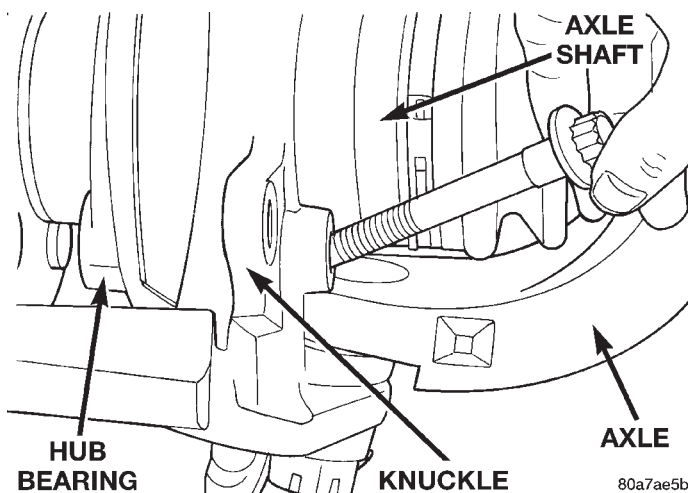
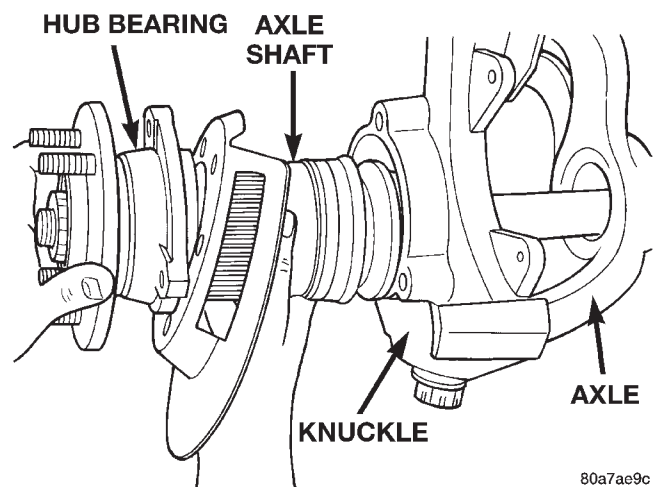

Fig. 11 Hub Bearing Bolts
Fig. 12 Hub Bearing and Axle Assembly
(6) Remove the hub to knuckle bolts (Fig. 11).
(7) Remove the hub from the steering knuckle and axle shaft, if necessary.
(8) Remove hub bearing and axle shaft assembly (Fig. 12), or axle shaft from axle. **Avoid damaging the axle shaft oil seals in the axle housing.**